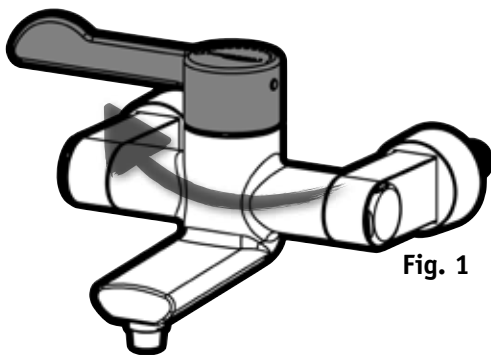

Fig. 1
- 2) Turn HANDLE 1 to OFF position (Fig. 1)